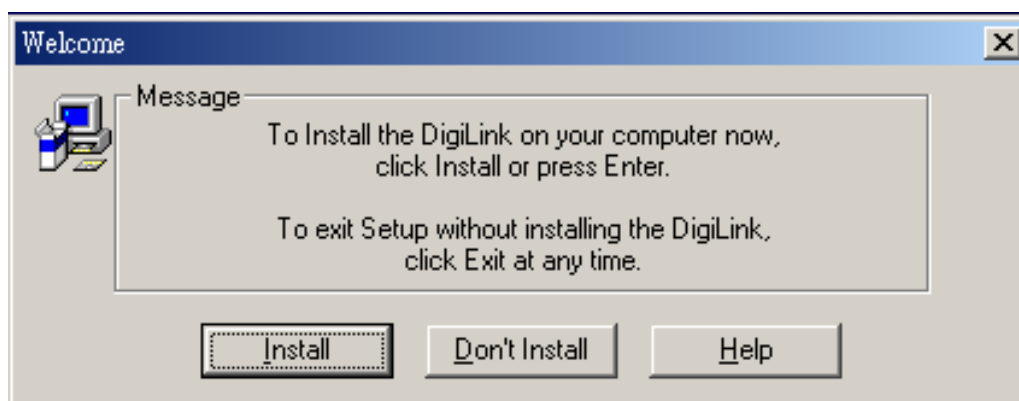

Fig. 35
- 5) Click 'INSTALL' button in Fig. 35 to start installation.